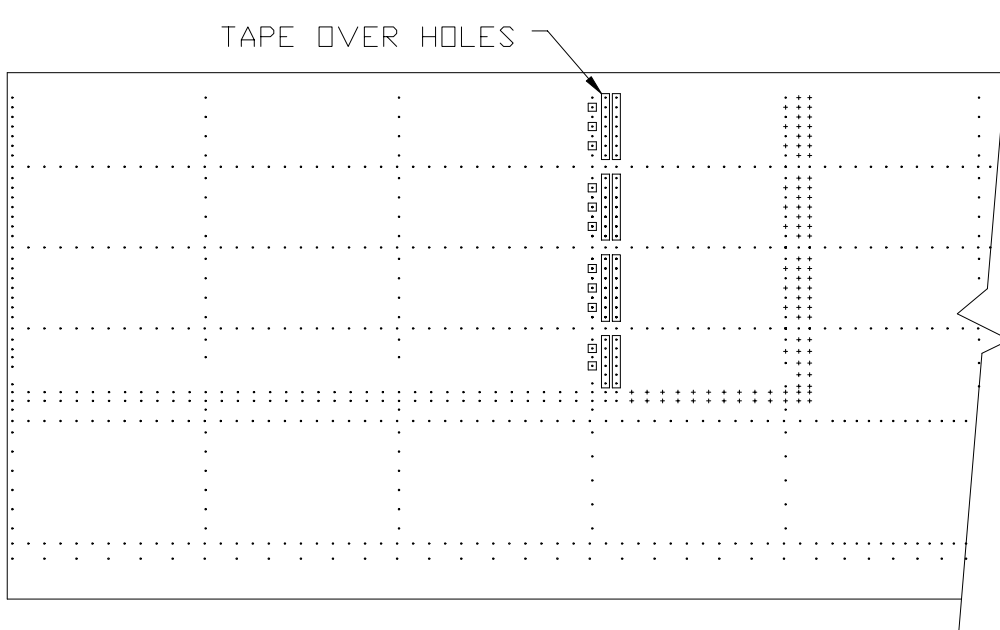

FIGURE 8.29.2
- 2) At the forth rib position, place tape over the holes as shown in figure 8.29.2. These holes are not to be used when drilling the Top Tank Skin.